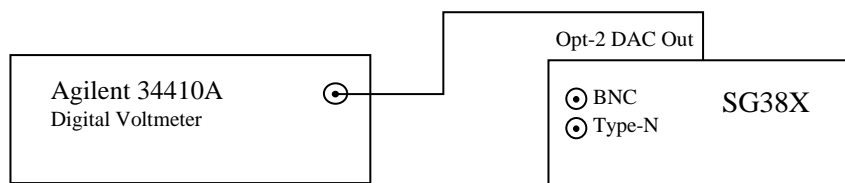

Figure 16: Option-2 DAC output test.
This test verifies the operation of the option-2 DAC output. This test requires the setup shown in Figure 16.
1. Connect the equipment as shown in Figure 16